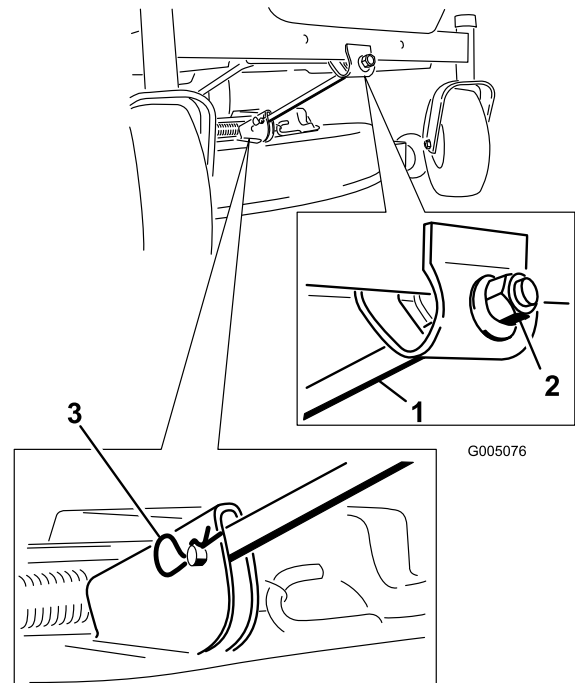

Figure 46
4. Remove the hairpin cotter and clevis pin from the front support rod (Figure 46). Carefully lower the front of the mower deck to the ground.
6. Attach the front support rod to the mower deck with the clevis pin and hairpin cotter (Figure 46).